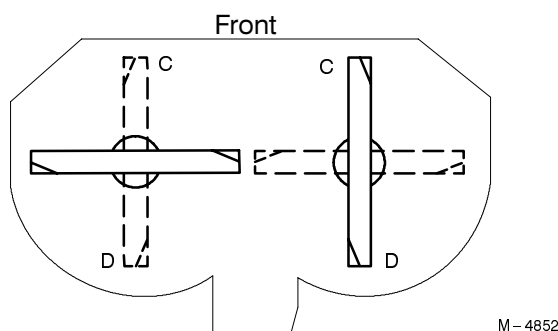
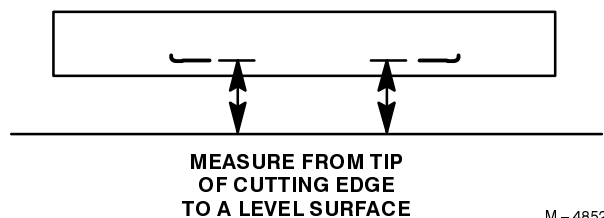

Figure 51
Figure 52
5. If it does not measure correctly remove or add washers to the height-of-cut posts. Match the hole in the post with the decal and the measured height-of-cut (Fig. 52).
2. Position one blade front-to-rear (Fig. 51). Measure at "C" and "D" locations (Fig. 51) from a level surface to the cutting edge of the blade tips (Fig. 52).